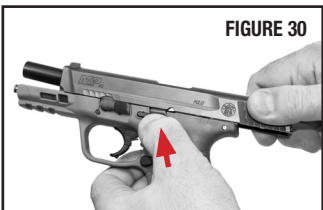

FIGURE 30
- Lock the slide in the open position by allowing the slide to move slightly forward from the rearmost position while pressing upward on the slide stop (FIGURE 30).